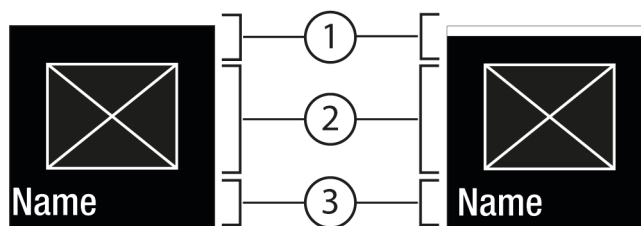
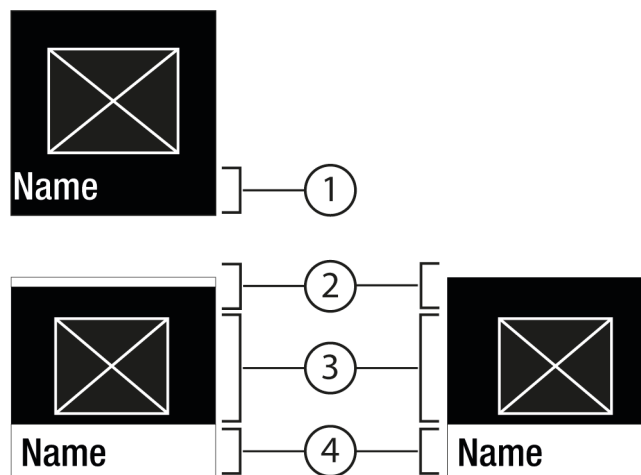

Fig. 6
Fig. 7
- Press Confirm *Fig. 5 (2)* to go to the submenu *Fig. 7 (4)*.
- Set new level: Press Confirm *Fig. 5 (2)* to select a deselected value *Fig. 6 (1)*.
- Back to menu: Press Confirm *Fig. 5 (2)* to select the selected value *Fig. 6 (2)*.
- ▷ Status: on *Fig. 6 (1)* appears briefly in the submenu *Fig. 7 (4)*.